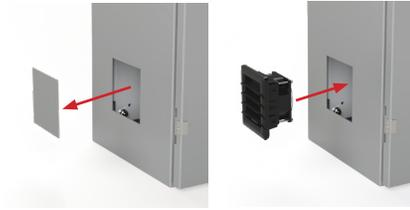

Figure 1
- Remove the correct cutouts from the top and bottom of the enclosure (refer to Figures 1 & 3).